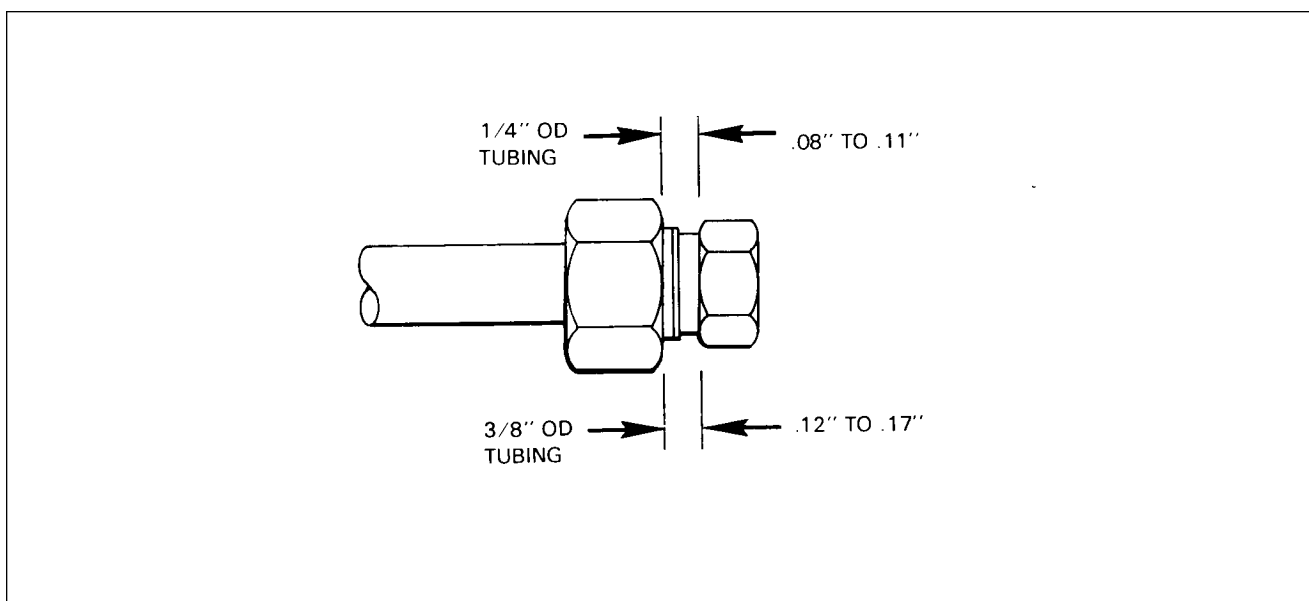

Figure 28-5. Tolerances, Union Nut and Tubing Nut
5. After torquing each fitting, measure the distance between the face of the union nut and face of tubing nut. Refer to Figure 28-5 for tolerance.
1. If fittings show evidence of galling, or does not meet the dimensional requirements of Figure 28-5, or continues to leak after being tightened it must be repaired.